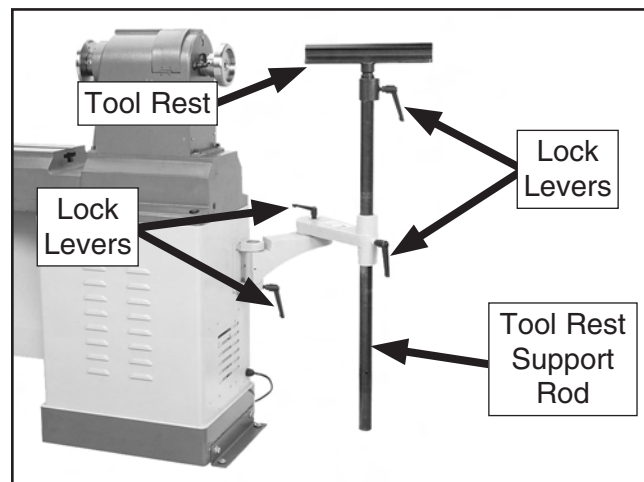

Figure 15. Outboard tool rest assembly.
1. While firmly holding the tool rest support rod, loosen the lock levers shown in **Figure 15**.